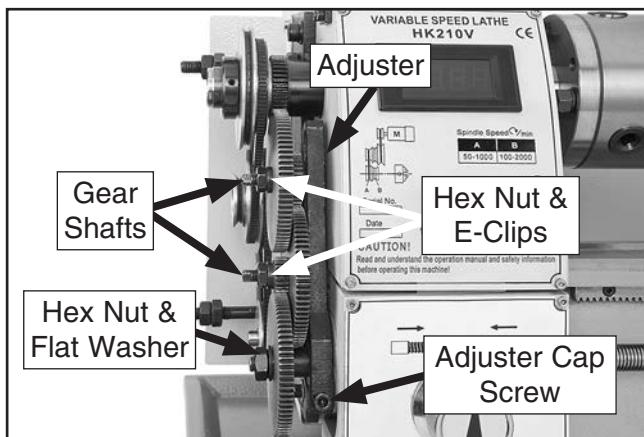

Figure 75. Adjuster cap screw location.
5. Loosen adjuster cap screw shown in **Figure 75**, and pivot adjuster down to disengage gears.
6. Remove hex nuts, e-clips, and flat washer that secure gears (see **Figure 75**).